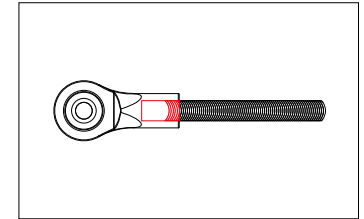

Fig. 30: Einschrauben der Gewindestange
5. Screw the threaded rod about ten turns deep into both heads of the link rod. This allows for an adjustment range of approximately +/- 10 mm in length for any necessary later corrections. (Fig. 30)